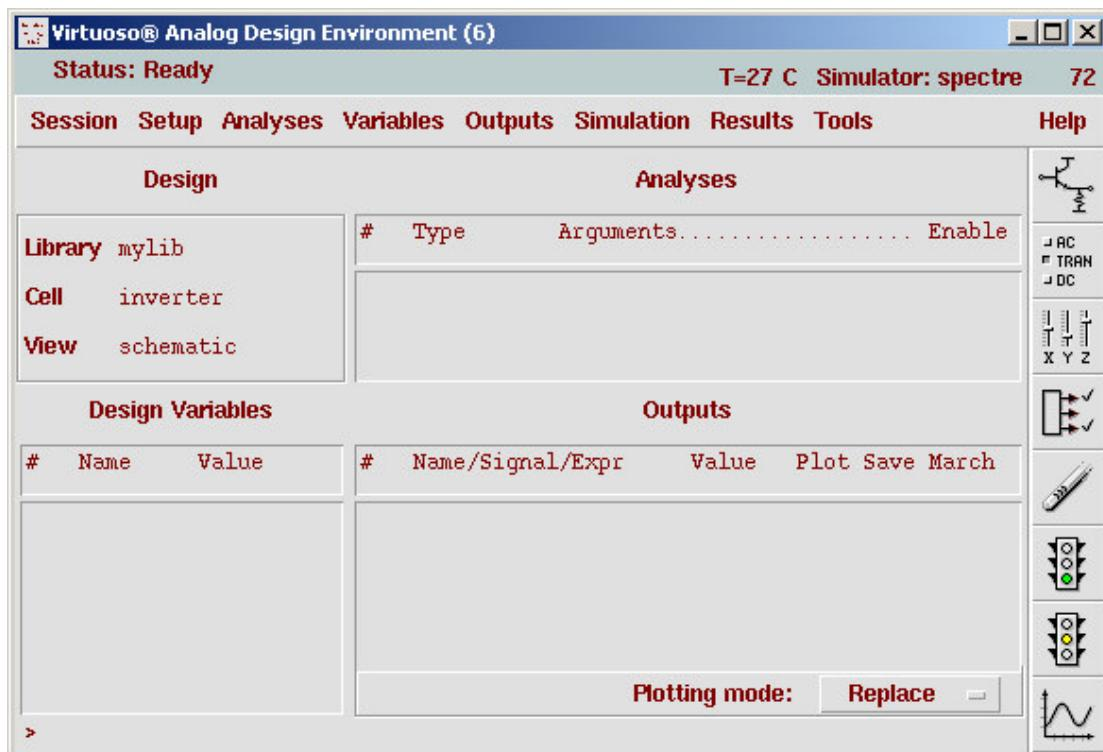

Figure 41. Virtuoso Analog Design Environment
1. In the **Virtuoso Schematic Editor** window, click **Tools**, then **Analog Environment**. The analog environment will open another schematic view and will probably re-organize all your windows. Most importantly, the **Virtuoso Analog Design Environment** window will pop up as in Figure 41.